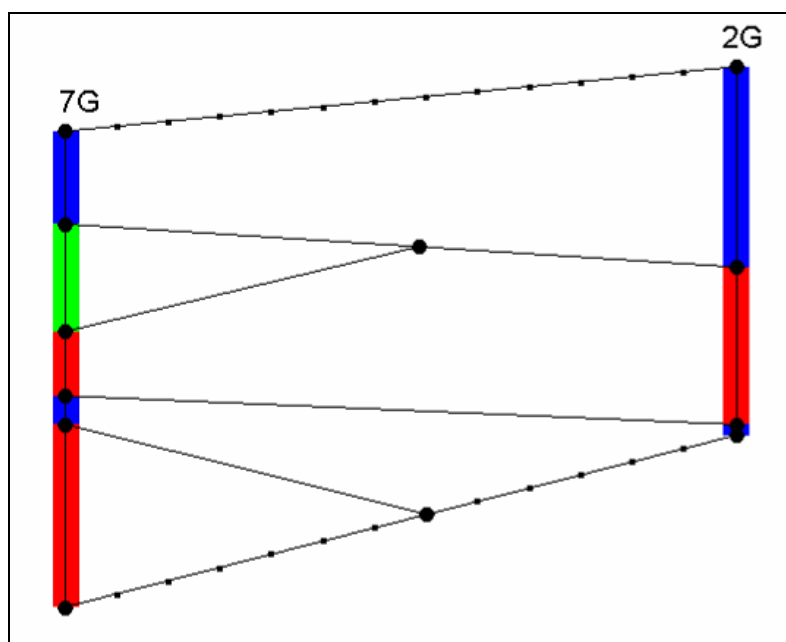

Figure 2. Cross Section 7G-2G
4. Create all the arcs shown in Figure 2.